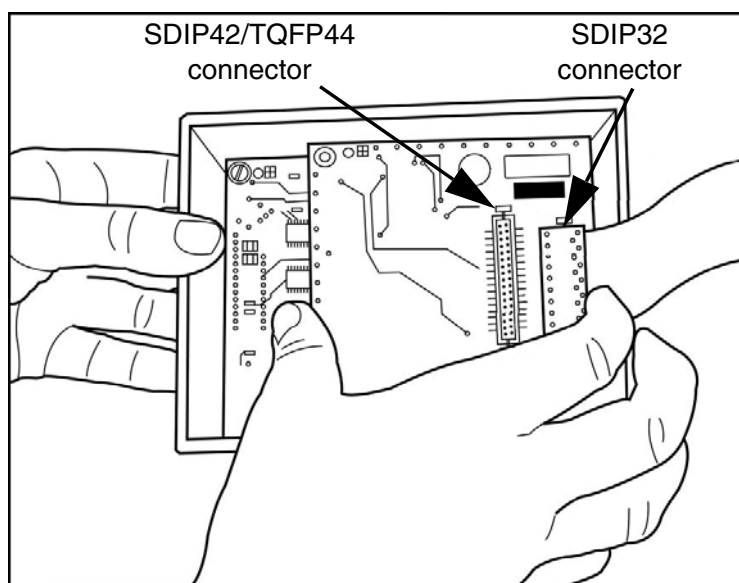

Figure 4: Connecting flex adapter to TEB
| Package | Flex adapter required | TEB connector (see Figure 4) |
- 2 Using Table 1, identify the TEB connectors you must use for your microcontroller's package. Connect the flex adapter supporting your microcontroller package to the appropriate connectors on the bottom face of the TEB. Figure 4 shows a the SDIP32 flex adapter (ref.: DB510) being inserted into its SDIP32 connector.